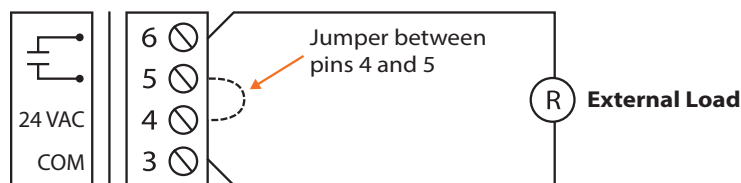

Figure 10 - Digital output wiring using the internal power source
- 2) Alternatively, if an external power source is not available, an additional set of 24 VAC and COM pins (#4 and #3) are provided for your convenience. These pins are internally connected to the VC2000s power source (pins #2 and #1). By using a jumper to connect the internal power source to the digital output, the load can be powered (see Figure 10).